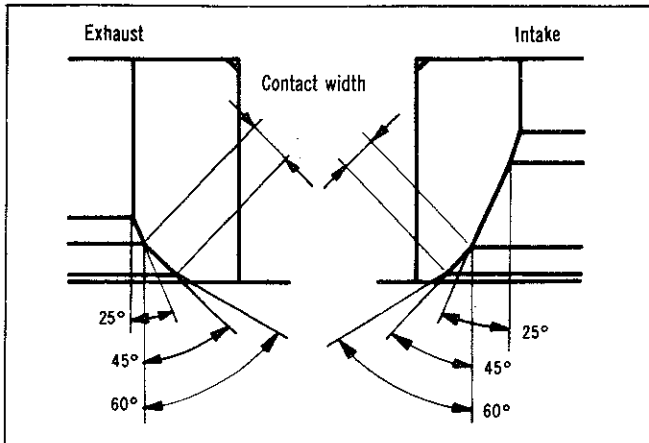

Fig. 26—Valve seat angles
(1) Check valve guide for wear, if faulty replace guide as previously described.
(2) Re-condition the seat using either a seat grinder or seat cutter.
(3) The valve seat contact width should be as specified, at the centre of the valve face and as shown in Fig. 26.
(4) After cutting, lap the valve and valve seat lightly with a fine lapping compound.